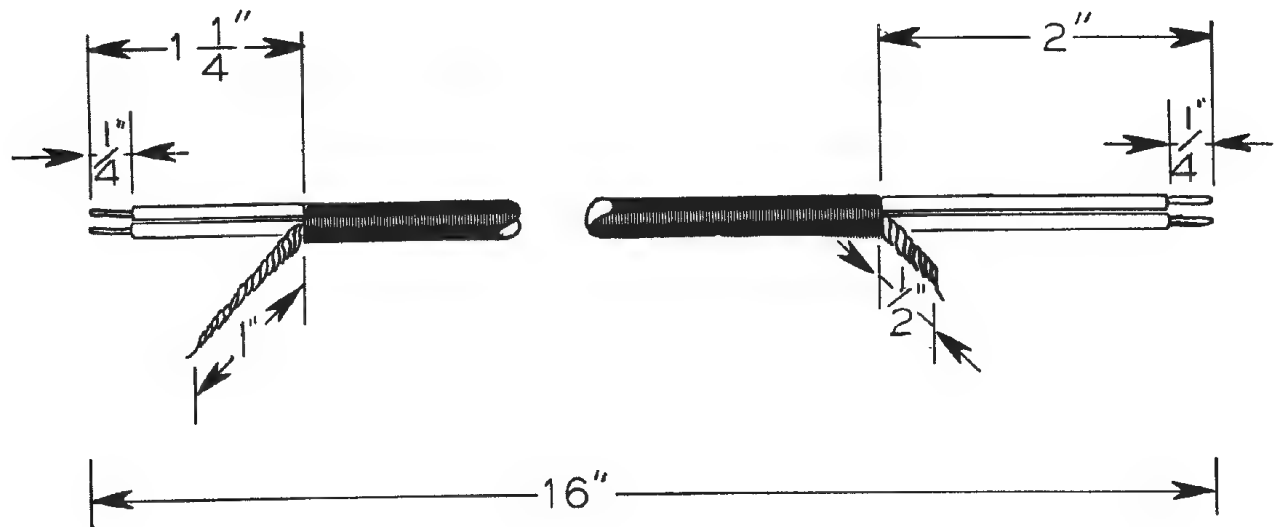

Figure 7
- () Prepare the two-conductor shielded cable as shown in Figure 7. Tin ends of leads.